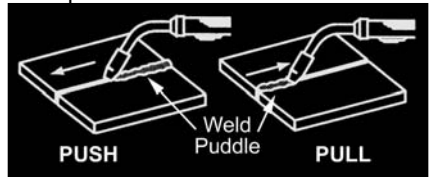

Figure 12. Travel Direction
1. **TRAVEL DIRECTION** is the direction the torch is moved along the weld joint in relation to the weld puddle. The torch is either **PUSHED** (see Figure 12) into the weld puddle or **PULLED** away from the weld puddle.